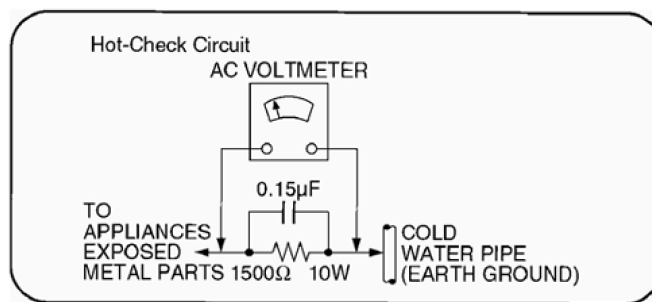

Figure 1
4.1.2. Leakage Current Hot Check (See Figure 1)
2. Connect a $1.5k\Omega$, 10 watts resistor, in parallel with a $0.15\mu\text{F}$ capacitor, between each exposed metallic part on the set and a good earth ground such as a water pipe, as shown in Figure 1.